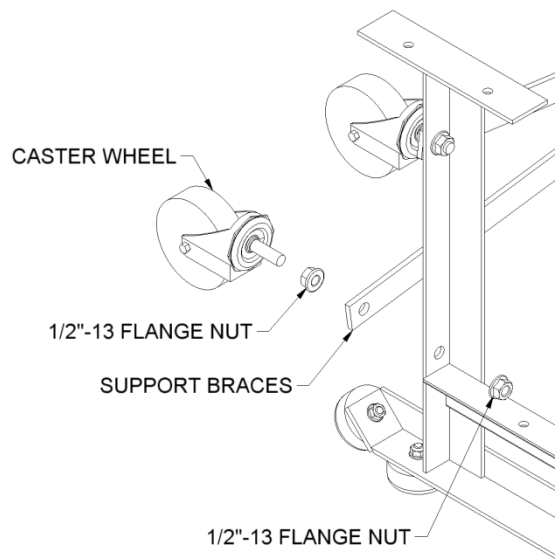

FIGURE: 2
2. Install two wheel casters & support braces on the backside of two leg frame as shown in figure 2 - fully thread caster stem on, but tighten only finger tight.